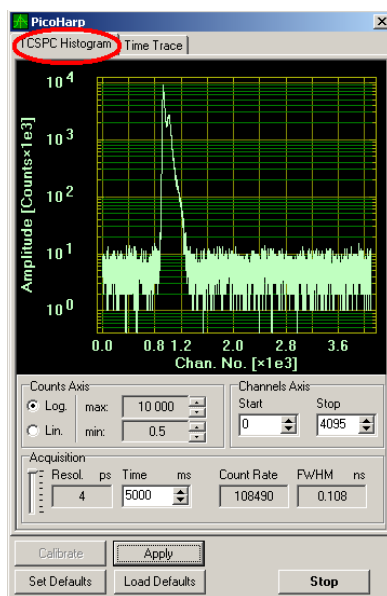

Fig. 2.12: IRF oscilloscope window, recorded with a PH300, MPD SPAD and PQ laser source.
6. Select in the oscilloscope window the **TCSPC Histogram - tab** as shown in Fig. 2.12. Start the oscilloscope measurement by clicking the Start - icon. The amplitude axis can be adapted by scrolling with the mouse wheel button in case the cursor is placed on the oscilloscope window. The shape and width of the IRF curve is very much dependent on the laser and detector configuration.